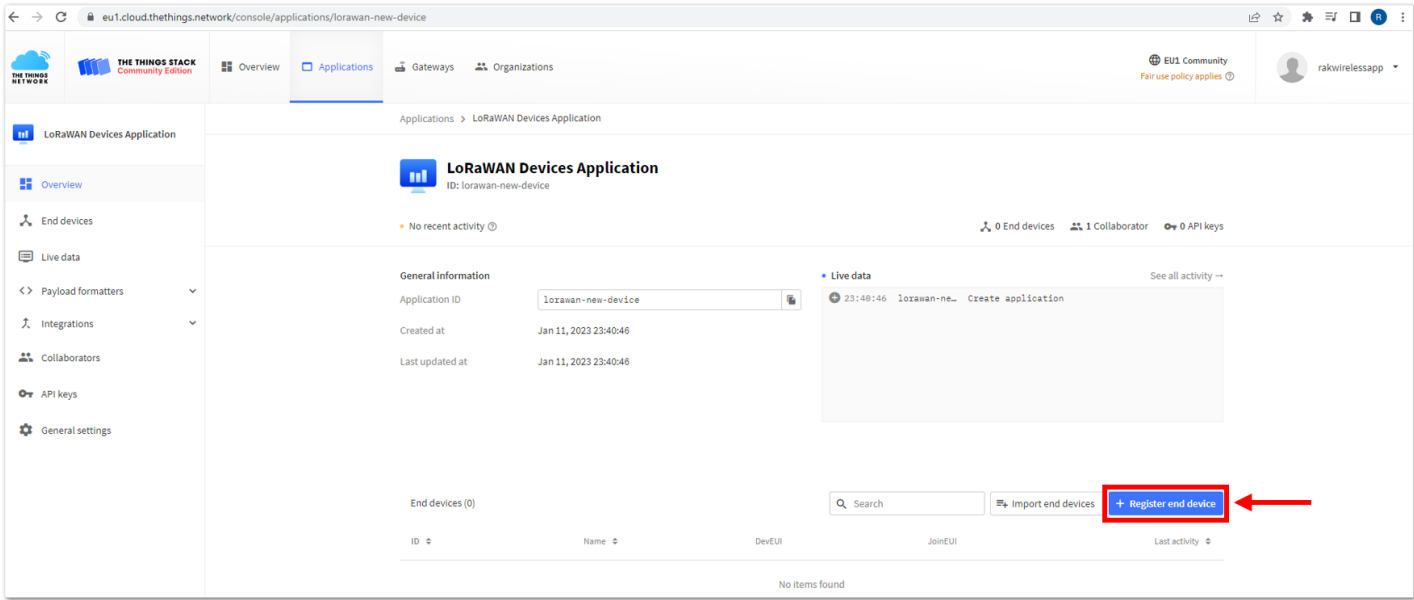

Figure 120: Adding ABP Device
1. To register an ABP device, go to your application console and select the application where you want your device to be added. Then click **+ Register end device**, as shown in **Figure 120**.